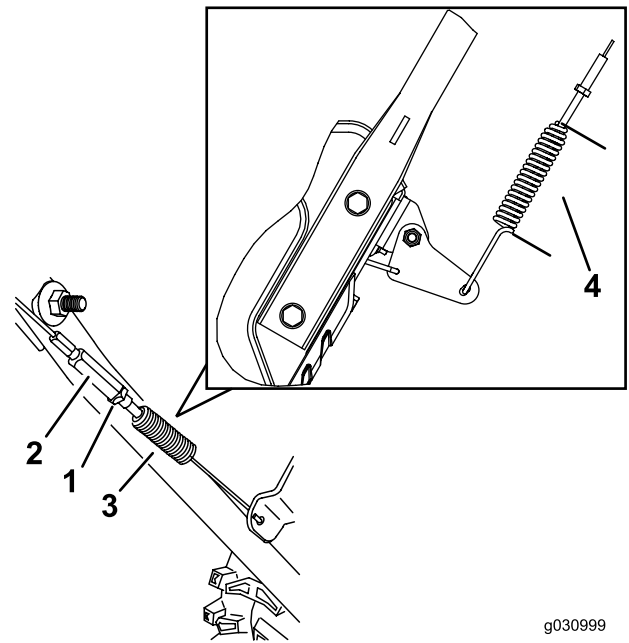

Figure 29
3. Loosen or tighten the turnbuckle to adjust the spring length to 5.5 cm (2–3/16 inches) as shown in Figure 29.
4. Tighten the jam nut (Figure 29), ensuring that there is slight tension on the cable.